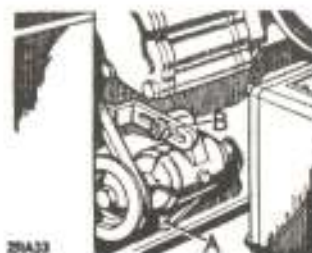

Fig. 41 Fan belt adjustment (coolant pump), 24 volt models
- (2) *Fan belt adjustment (coolant pump), 24 volt models*
- Fan belt adjustment is by means of a jockey pulley situated on the left-hand side of the engine. See Fig. 41.